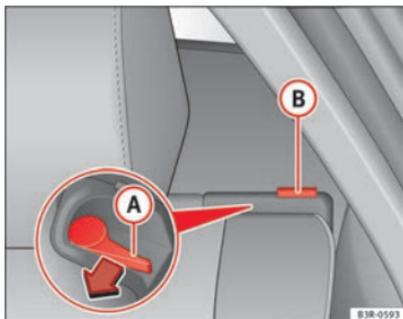

Fig. 115 Backrest release lever
- Press the release lever **A** ⇒ Fig. 115 in the direction indicated by the arrow.